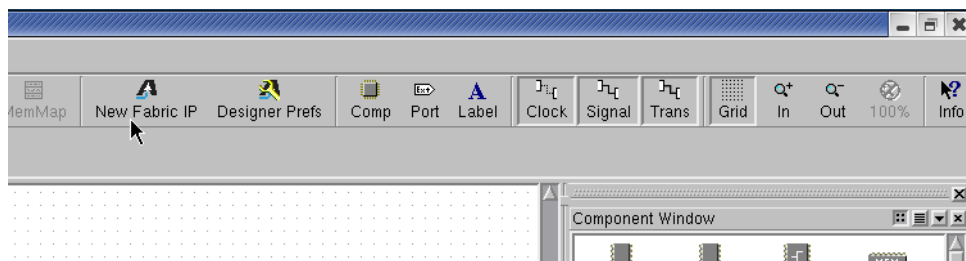

Figure 6-2 New Fabric IP selection
1. Click on the **New Fabric IP** button on the Main Toolbar, as Figure 6-2 shows. This opens the Configure new PrimeCell IP dialog box.